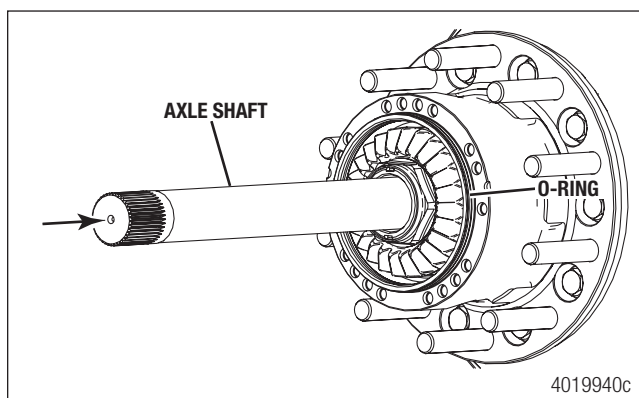

Figure 15
- e. Install the axle shafts through the hub and axle housing, and engage the splines in the carrier. Make sure the axle shafts are installed into the correct hub (left or right) and the correct end of the shaft is inserted into the carrier. Figure 15.
- f. Ensure the large O-ring on the hub is free of debris, lubricated and properly seated in the O-ring groove. Figure 15.